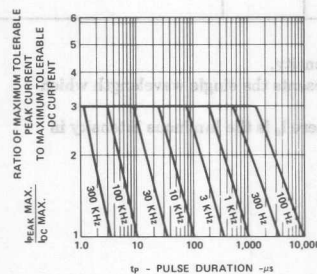

Figure 5. Maximum Tolerable Peak Current vs. Pulse Duration. ( $I_{DC}\text{ MAX}$  as per MAX Ratings)
- See Figure 5 (Red), 10 (Yellow), or 15 (Green) to establish pulsed operating conditions.